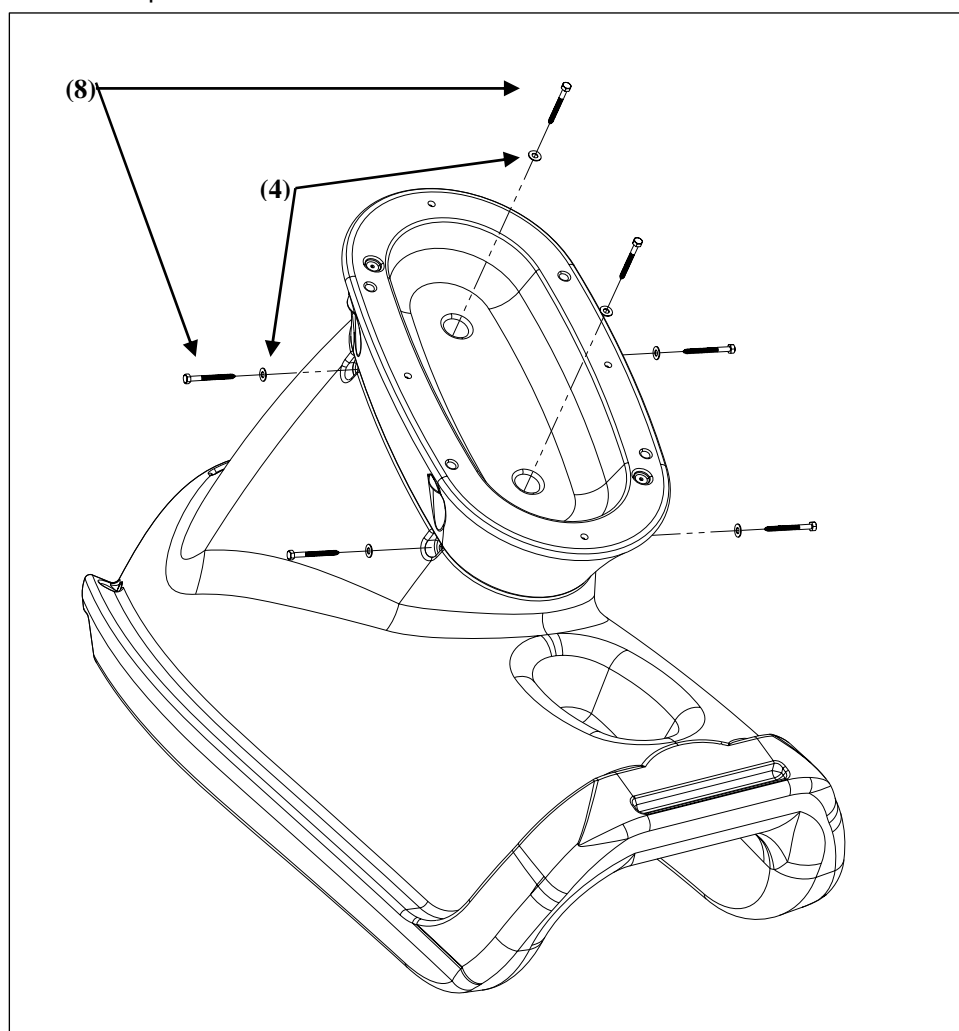

FIG. 4
- 1) Assemble the pedestal part to the runway exit section as shown in Figure 4. Attach the pedestal part to the runway exit section by inserting the two lag screws into the holes located in the bottom of the pedestal.